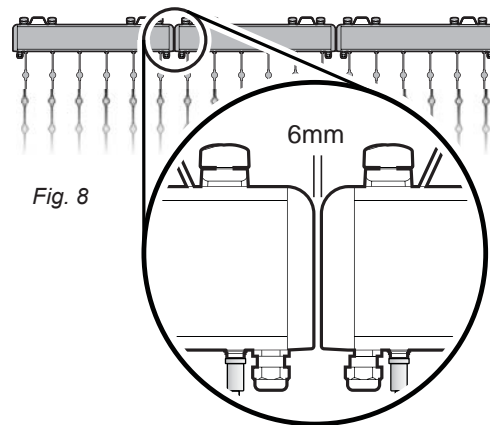

Fig. 8
- When using more than one Touring Pixel Driver to form a wider LED curtain, the Touring Pixel Drivers need to be spaced 6mm apart to obtain the correct 12cm pixel pitch (Fig. 8).